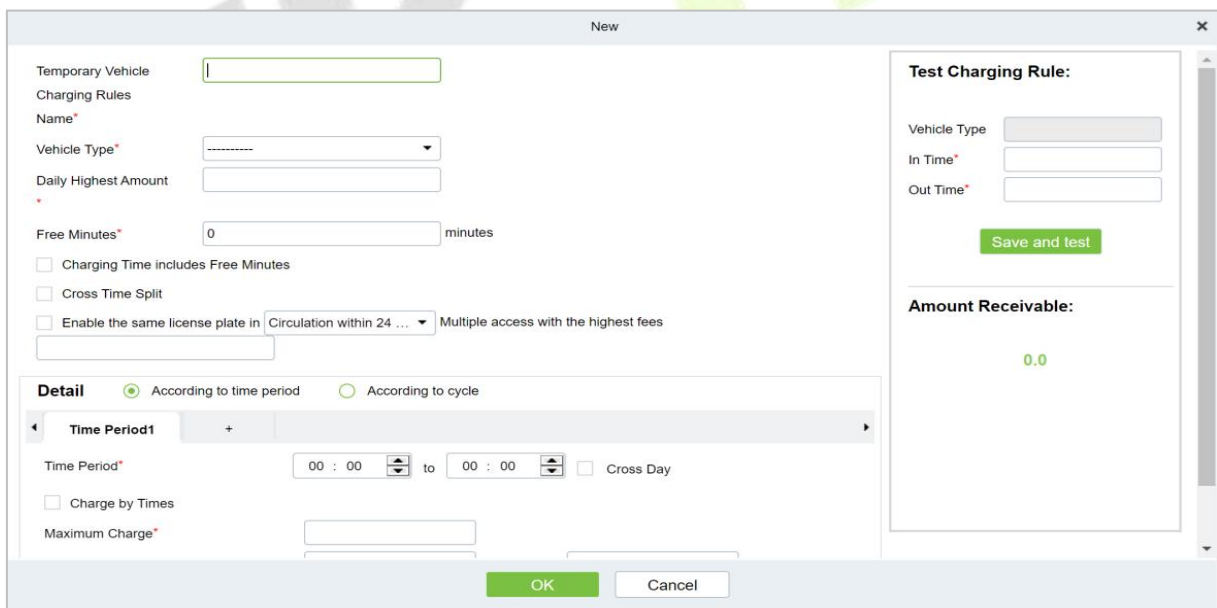

Figure 9-20 Temporary Car Charge Rules Interface
Step 2: In the Temporary Car Charge Rules interface, click **Add New** and fill in the corresponding parameters, as shown in Figure 9-20. Please refer to Table 9-21 for parameter description.